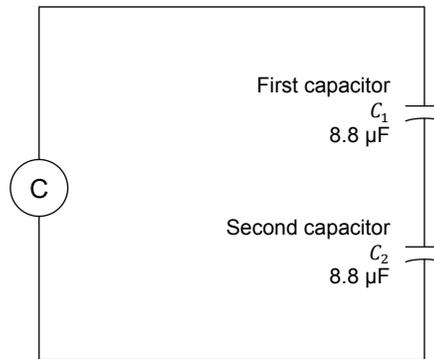

Figure 22. Circuit for measuring the capacitance of series capacitors.
28. Connect the circuit shown in Figure 22. Use both 8.8  $\mu\text{F}$  capacitors to implement the series capacitors.